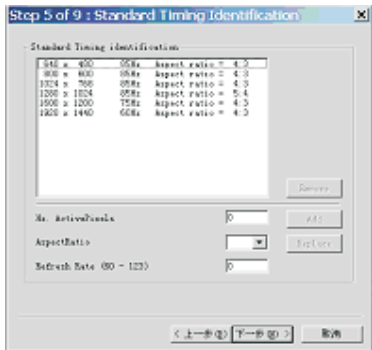

Fig. 17
4. Click Next , bring up Fig. 17.